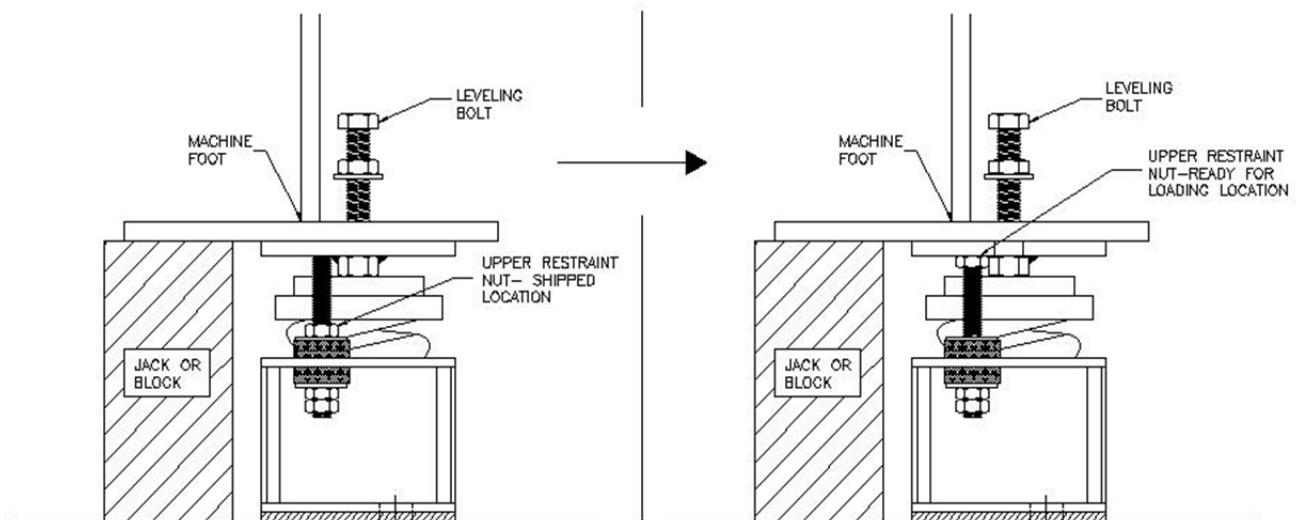

Figure 3
7. **IMPORTANT!** Before loading isolator, adjust both upper restraints nuts upwards to the “Ready For Loading” location. This allows the spring to deflect freely under the weight of the machine. (Review Figure 3 for clarification.)